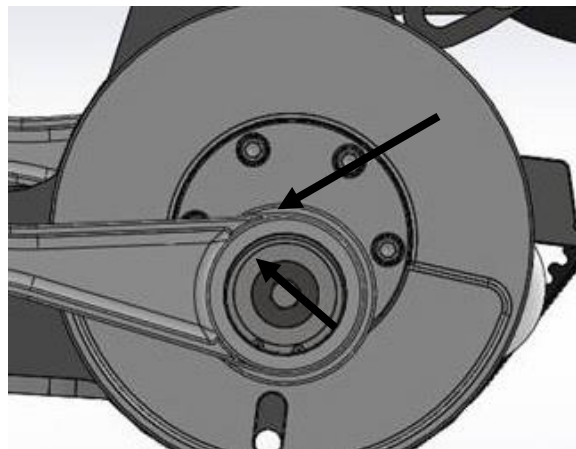

Figure 69
14. Note: When installing the pitman arm, make certain the snap ring points to the outside of the flywheels. The inner race of the connecting rod bearing must be flush with the stub on the flywheel. Figure 69